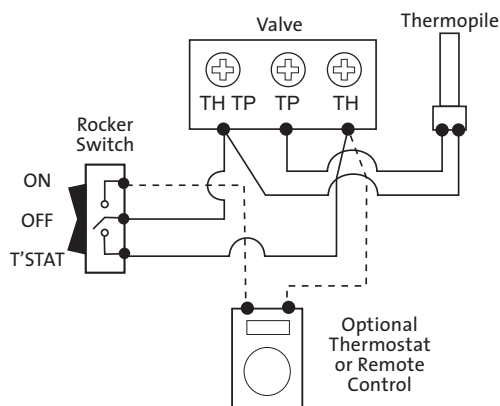

Figure 18. Wiring Diagram for optional thermostat.
2. Connect the other thermostat lead to the TH terminal on the valve. **DO NOT DISCONNECT ANY WIRES.** See fig. 18.